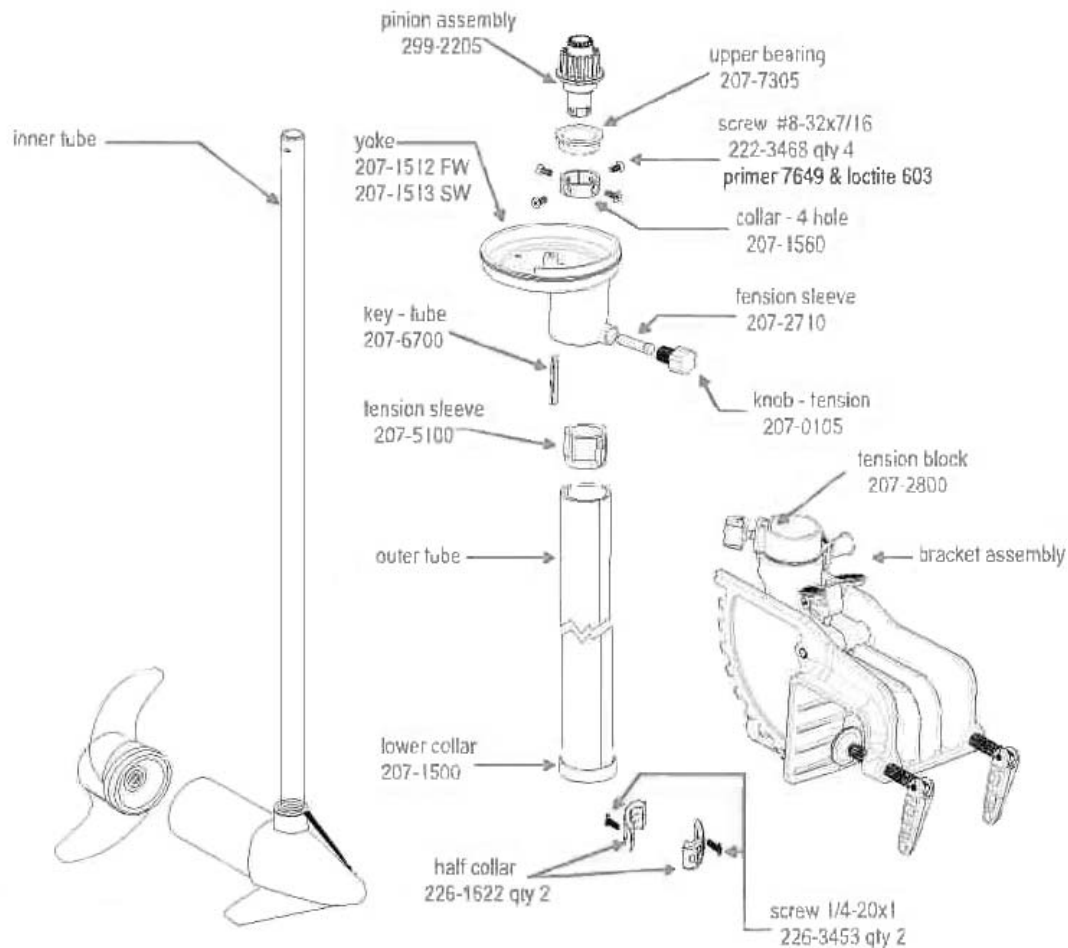

Fig. 5
- Step 9.** Remove the collar halves (P/N 2261622) clamped around the motor inner tube (1-1/8" diameter tube). The collar halves are located just below the lower collar (P/N 2071500) on the outer tube of either the transom mount or bowmount 3X motor. (A 3/16" allen wrench / driver is required.) (see Fig. 5, page 17-4)
- Step 10.** With the collar halves removed, the motor lower unit and inner tube assembly can be pushed / lifted up to expose the 4-hole collar (P/N 2071560) and four #8-32 x 7/16" Phillips flathead countersunk screws (P/N 2223468) that hold the pinion gear assembly into the inner tube. (see Fig. 5, page 17-4)
- A.** Remove the four screws (P/N 2223468) to allow removal of the pinion assembly (P/N 2992205), upper bearing (P/N 2077305) and 4-hole collar. (see Fig. 5, page 17-4)
- Step 1.** With the outer tube and pivot yoke properly positioned and slid into the transom bracket hinge or BowGuard 360° assembly (reference Disassembly Procedure **Step 12**), slide the motor lower unit, inner tube assembly, and lower collar (P/N 2071500) back into place in the outer tube with the upper end of the inner tube extending out the top of the pivot yoke. (see **Fig. 5 on page 17-4**)
- A.** Use care to line up the rib in the pivot yoke with the ends of the split gear carrier. (see **Fig. 5, page 17-4**)